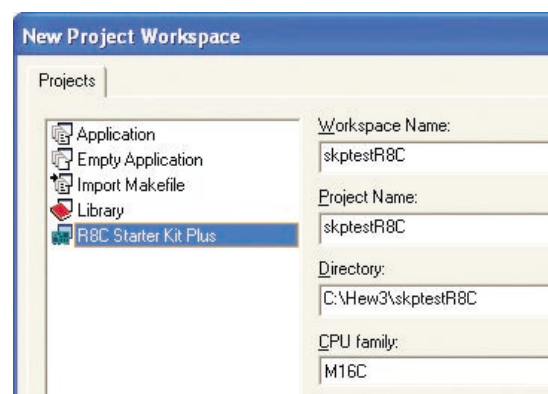

Figure 2. New Project Workspace in HEW
- ii) Select “R8C StarterKit Plus” (Figure 2).